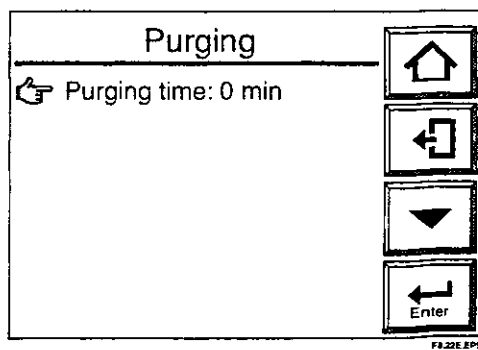

Figure 8.22 Purging Display
- (4) Select Purging. The purging time setting display appears, as shown in Figure 8.22.
- (5) Point to the Purging time and press the [Enter] key. Then the display for selecting purging time appears.
- (6) Enter the desired numeric value from the numeric-data entry display.